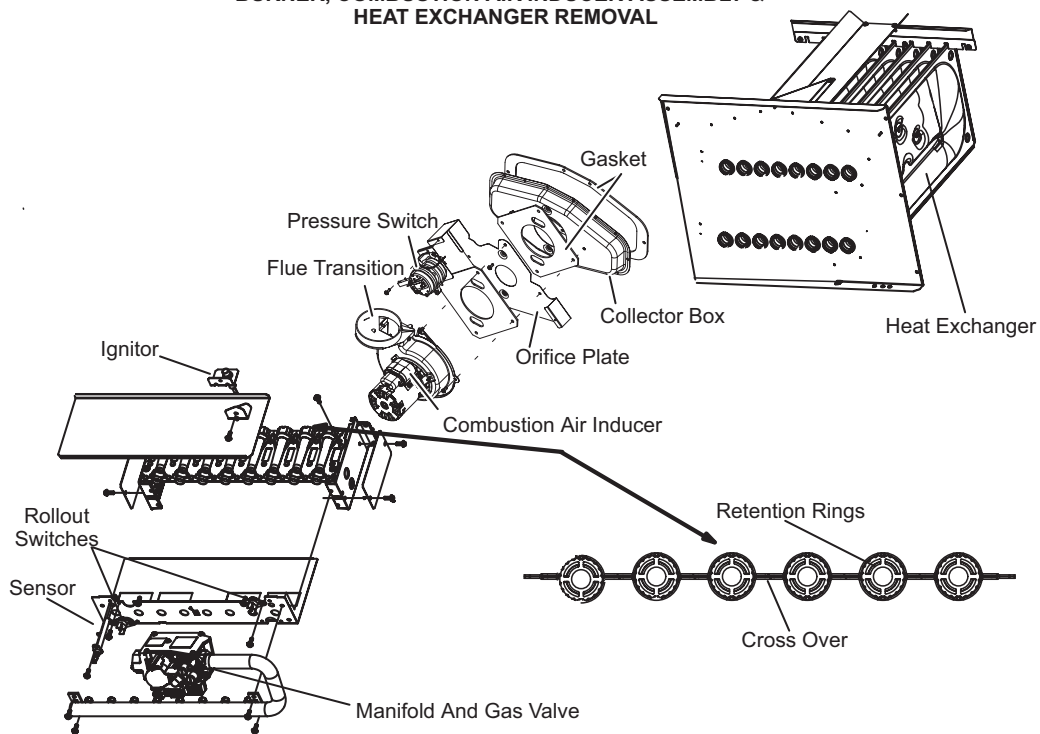

FIGURE 23
- 12 - To clean burners, run a vacuum cleaner with a soft brush attachment over the face of burners. Visually inspect inside the burners and crossovers for any blockage caused by foreign matter. Remove any blockage. FIGURE 23 shows burner detail.